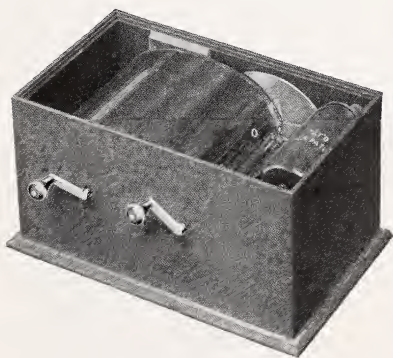

FIG. 5.
7. Now hook apron to lugs on transferring reel (Fig. 5), in precisely the same manner that you hooked the opposite end to lugs on the spindle, except that axle "D" turns to the right.